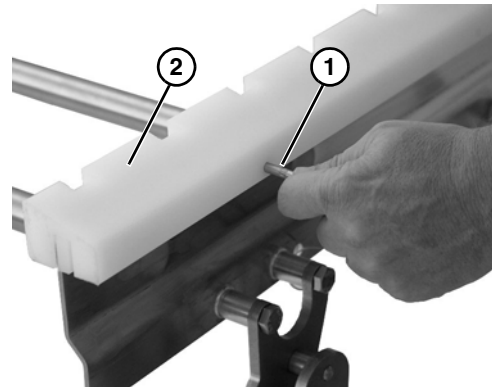

Figure 10
2. Remove the guides by removing the pull pins (**Figure 10, item 1**) that connect the guide (**Figure 10, item 2**) to the frame.